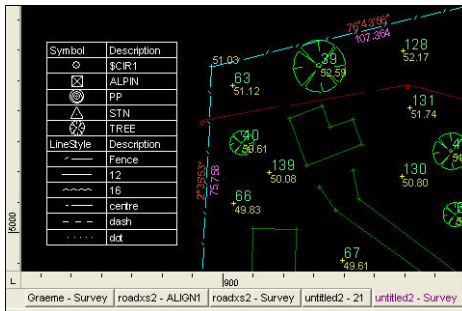

Figure 9-102. Example of Symbols and Line Styles, and Their Descriptions in the Same Table
4. Line styles and symbol tables can be built together by clicking **Append LineStyle**, which opens the **LineStyle Table** dialog box (Figure 9-102).